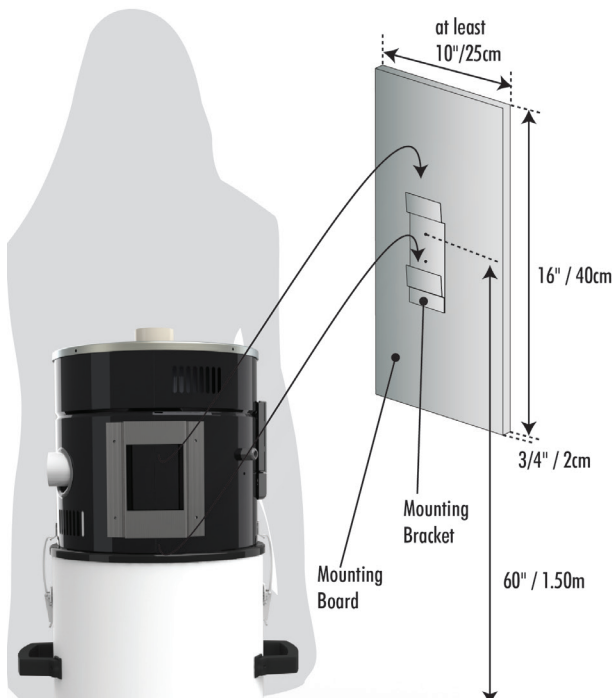

Fig.1 Mounting the unit
4. Insert the power unit bracket into the mounting bracket (as shown in figure 1);